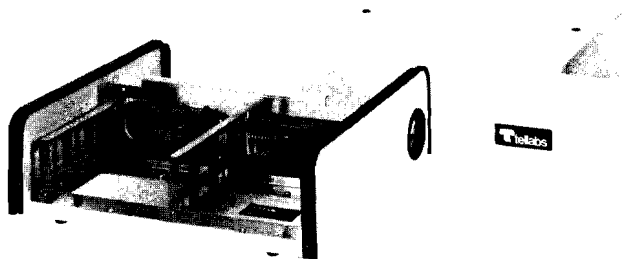

figure 1. 1914P Apparatus Case
1.01 The Tellabs 1914, 1914P, and 1914PR Apparatus Cases (figure 1) provide enclosed mounting for up to four Tellabs Type 10 modules. All three cases can be wall-mounted or used as desktop enclosures. The 1914 is the basic case on which the 1914P and 1914PR are based; it provides mounting and external connections but no power supply, integral power-conditioning circuitry, or integral ringing generator. The 1914P comes with a wall plug-in 48Vdc power supply and contains integral power-conditioning circuitry that provides filtering, voltage limiting, and current limiting for the -48Vdc supplied to the modules in the case from the plug-in supply. The 1914PR not only comes with the same power plug-in power supply and contains the same power-conditioning circuitry as the 1914P, but also contains an integral ringing generator that supplies 20Hz ringing voltage (85 to 106Vac) to the associated modules.